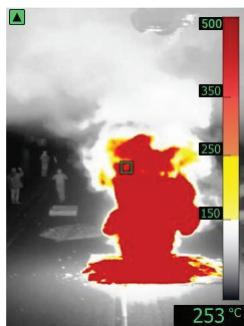

Figure 5.1 Thermal MSX® Camera Image
5. The temperature reading on the bottom right represents the measurement of the targeted spot. See **Figure 5.1**.